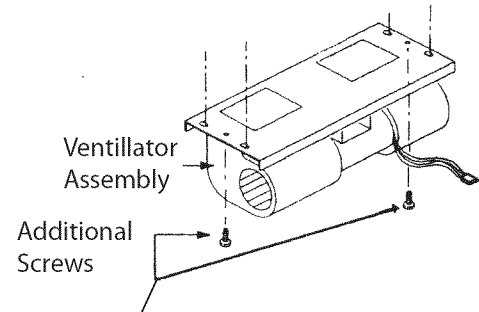

Figure 16: Attachment of Additional Screws
4. Attach two (2) additional screws as shown in Figure 16.
Verify that the two (2) additional screws in Figure 16 are installed and properly tightened before continuing.